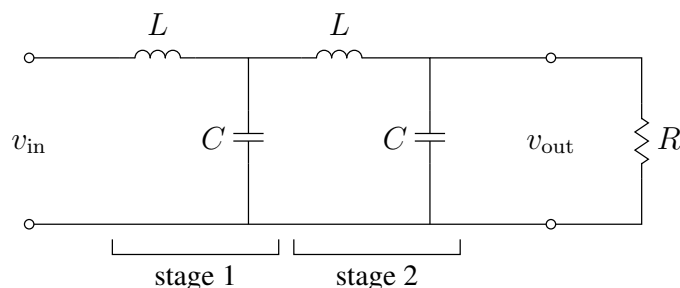

Figure 7: Two-stage ladder of identical LC circuits and load resistor R .
1. Analyze the LC ladder filter in Fig. 7 and plot the frequency response. Compare the frequency response of the two-stage ladder with that of a single stage. Which filter characteristic does the circuit exhibit?
2. Isolate the stages in Fig. 7 with a voltage follower. Analyze the circuit and plot the frequency response.